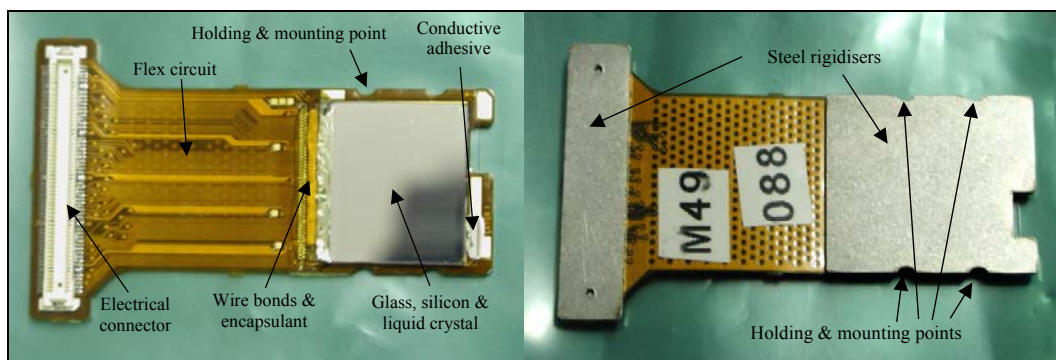

Figure 3 Microdisplay Components
- Lay lens tissue over glass Figure 3